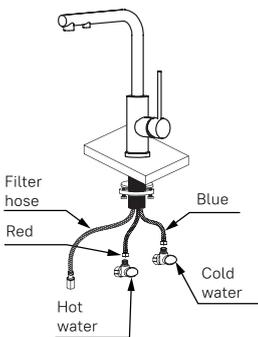

Fig. 4
4. Connect flexible hoses to water supply system. When tightening coupling nut hold the hoses with a hand (it is recommended to arrange cold water from the right and hot water from the left). Connect potable water filter to the faucet as per attached instruction supplied by the manufacture (fig. 4). Connect the feed line for filtered water to the adapter and then connect the filter as shown in Figure 5. When doing so, follow the filter manufacturer's instructions.